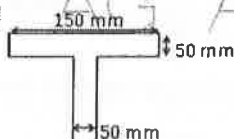

Figure 1
- f) A simply supported beam has a T-section as shown in Figure 1 and carries uniformly distributed load. Determine the bending stress at the extreme top fibre if the stress at the extreme bottom fibre is 125 N/mm^2 . The depth of the web of T-section is 150 mm. [3]